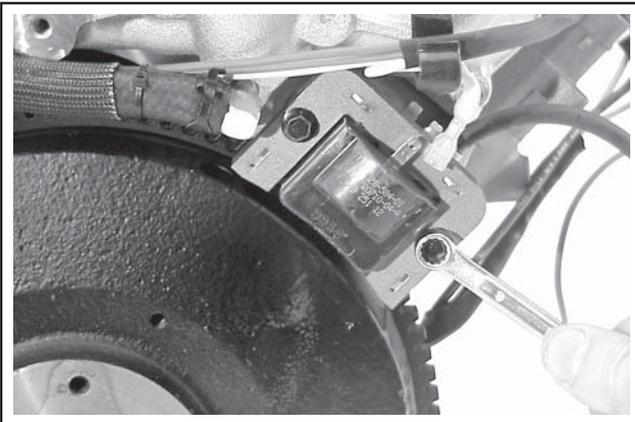

Figure 9-37. Removing Ignition Modules.
3. Remove the mounting screws and take off each ignition module. See Figure 9-37.